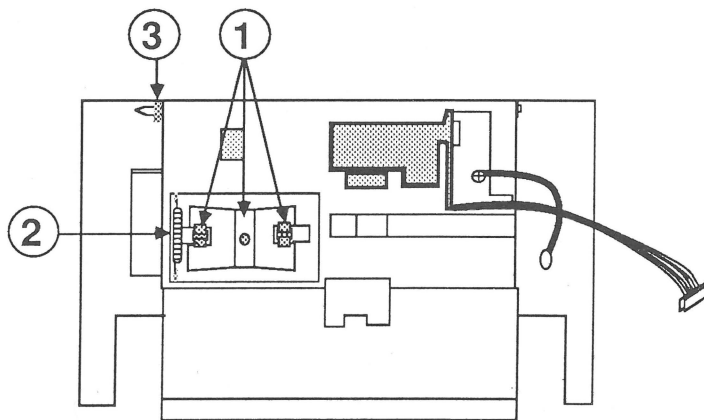
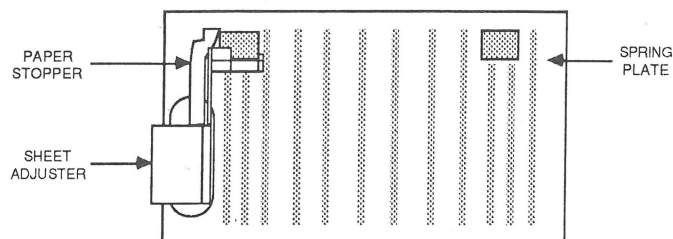

FIGURE 5
FIGURE 6
2. Remove the metal spring plate, which holds the sheet adjuster in place, by squeezing the three tabs (Figure 5, #1) together with a pair of needlenose pliers.
3. Disconnect the spring (Figure 5, #2) that holds the paper stopper in place.
4. Remove the e-ring (Figure 5, #3) from the pointed end of the spring plate shaft.
5. Set the housing assembly on its side, squeeze the three tabs again (Figure 5, #1), and push them through the openings in the housing. Turn the housing over and remove the plastic spring plate with the attached pieces (Figure 6).
2. Position the plastic spring plate and the attached pieces so that the tabs line up (Figure 5, #1). Snap the plate into position and hold it there.
3. Insert the pointed end of the spring plate shaft through the housing, and attach the e-ring (Figure 5, #3).
4. Position the metal spring plate and snap it into place over the tabs (Figure 5, #1).
5. Connect the spring (Figure 5, #2) that holds the paper stopper in place.